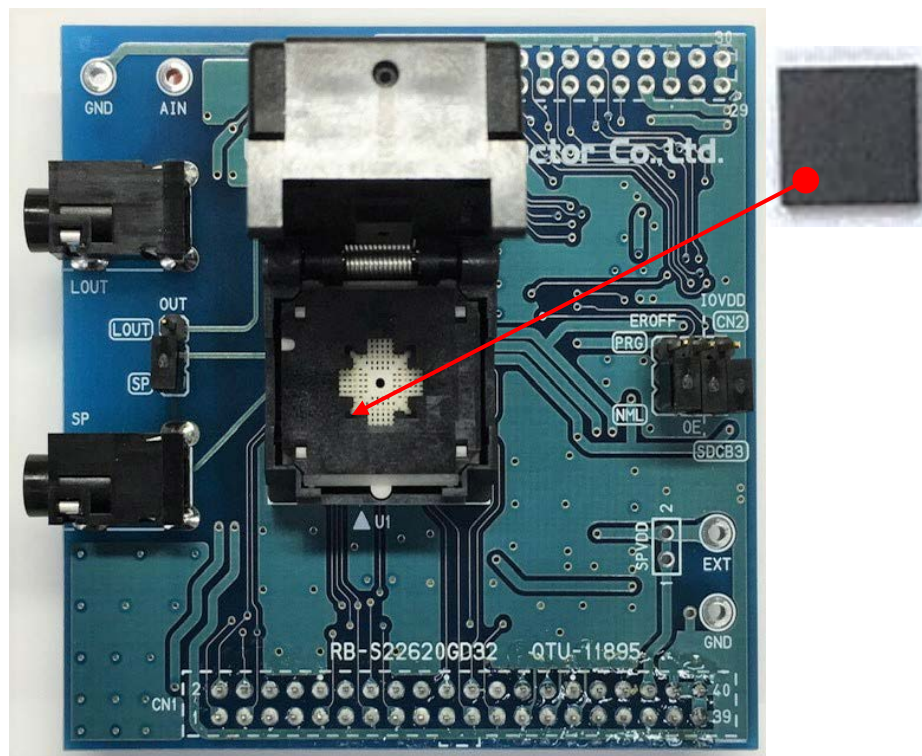

Figure 1 Outline Diagram
- Turn off the power when loading Speech Synthesis LSIs into the RB-S22620GD32. Pin 1 is the position of the board silk ▲ at the bottom left with respect to the socket opening. The Figure 1 shows the setting directions of Speech Synthesis LSIs.